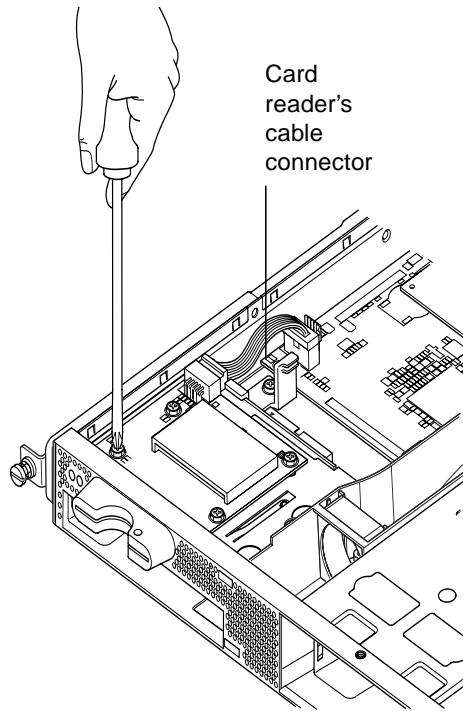

FIGURE 11-2 Removing the System Configuration Card Reader
2. **With the server open and seated on top of an ESD pad, and with a properly grounded antistatic wrist strap on your wrist, remove the power cable from the connector on the memory card reader board (see FIGURE 11-2).**
3. **Unscrew the screws fixing the memory card reader board into the top of the CD-ROM drive bay (see FIGURE 11-2).**